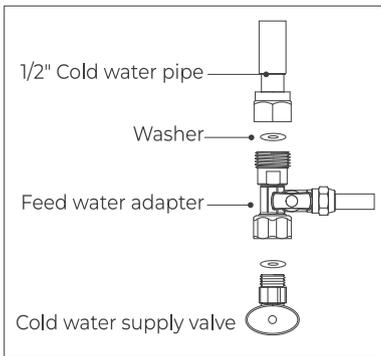

Figure 5
c. Twist the feed water adapter onto the cold water supply valve (with its washer) and tighten it with an adjustable wrench(**Figure 5**).